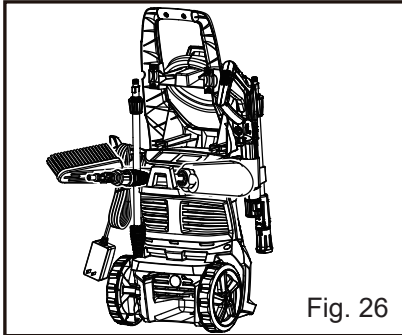

Fig. 26
- The attachments can be put on the accessories holder for easy storage (Fig. 26).